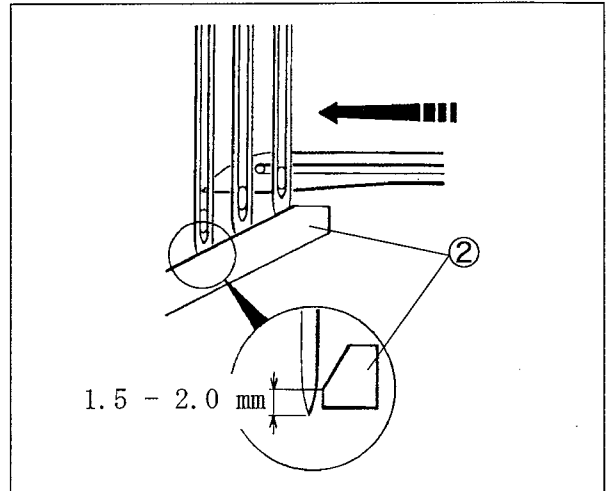
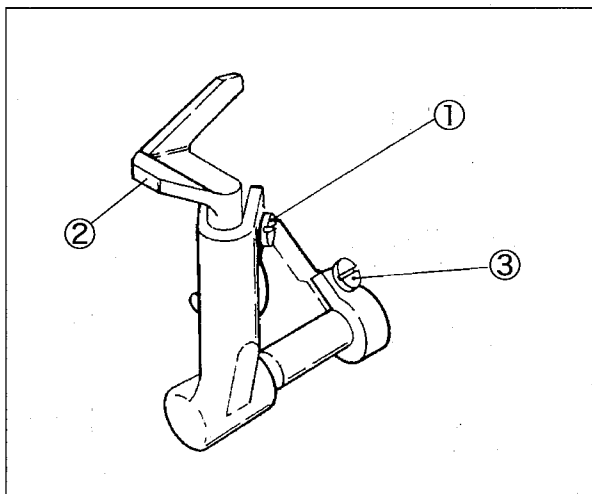

Fig. 6-25
Fig. 6-26
- (1) Turn the handwheel clockwise until the looper tip comes to the center of the left needle. (Fig. 6-25)
- (2) Loosen the screw①. Adjust the height from the needle tip to the angular part of the needle guard(front)② to 1.5 - 2.0 mm.
- (3) Tighten the screw① securely. (Fig. 6-26)
- (5) Tighten the screws① and ③ securely. (Fig. 6-26)